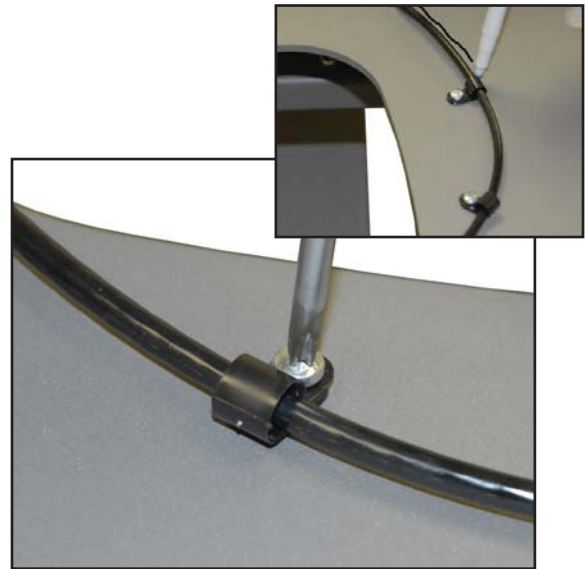

FIGURE 6.5
NOTE: The replacement Cable should be installed in approximately the same location as the Cable being replaced. In order to secure the Cable in approximately the same position, before removing the Cable, trace the path of the Cable onto the metal plate. Refer to **Figure 6.5 inset**.
2. Using a #1 Phillips screwdriver, release the two Screws securing the P-Clips from the top of the metal plate. Refer to **Figure 6.5**.